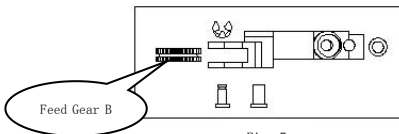

Fig. 7
7). After take out release lever, remove E-rings by plier and feeding gear B and then replace a new one. (Fig. 7)